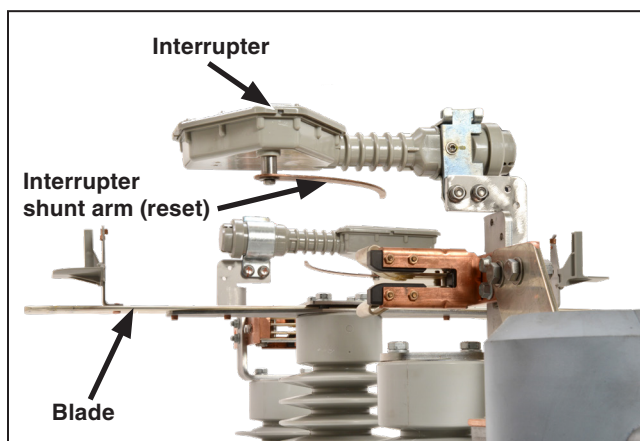

Figure 32. Make sure the interrupter and interrupter shunt arm is parallel to the sweep of the blade.
- (a) Open and close the switch and examine the interrupter and blade alignment. The interrupter and interrupter shunt arm must be parallel to the sweep of the blade. See Figure 32.
- As the blade reaches its full travel the interrupter shunt arms will be released and will quickly snap back to their closed positions and reset for the next operation. See Figure 32.